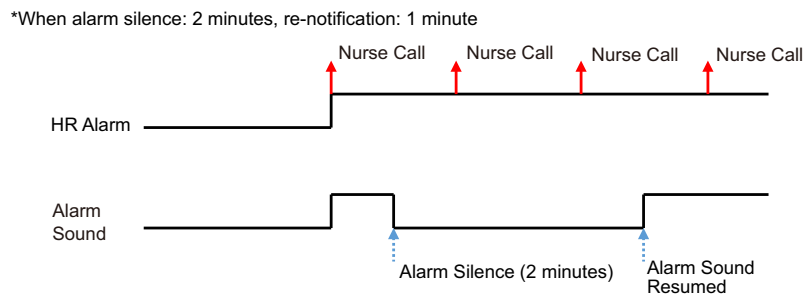

Figure 8: Re-notification
- ♦ By setting "Re-notification" to ON, nurse call will be re-notified if the alarm condition remains after the specified duration for re-notification (Figure 8).